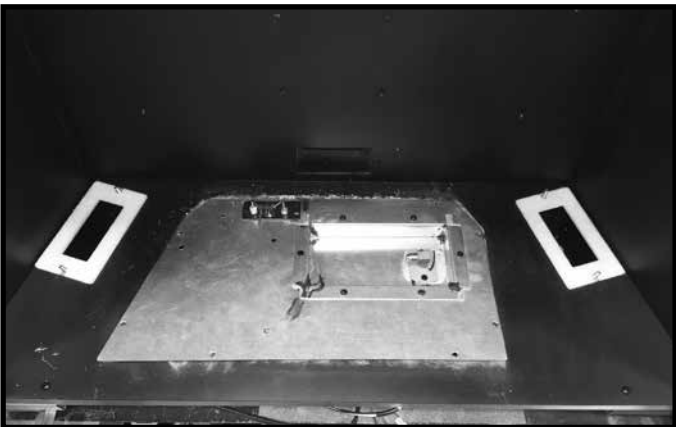

Figure 8
4. Place one light glass gasket over each light tub using the threaded studs as a guide. See Figure 8.